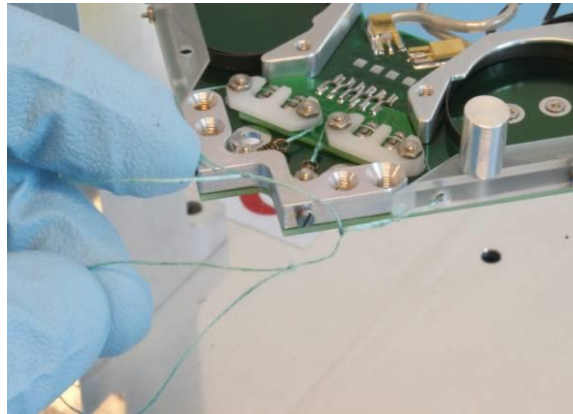

Figure 5-5 HDRM Burn wire with wire puller
8. Use the wire puller MGSE to align the mounting screws with its mounting hole (Figure 5-5).